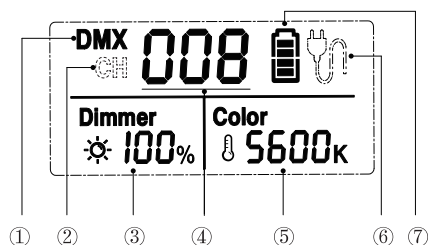

Fig.5 LCD display
The top left corner of LCD screen shows "DMX" (Fig.5 ①) indicating that the communication control mode currently is DMX communication mode. In this mode, connect the DMX signal output device to the lights network, and set up the communication address to work normally.
The top left corner of LCD screen shows "CH" (Fig.5 ②) indicating that the communication control mode is interaction control mode. In this mode, set the target lights to the same communication address to work normally, and the master-slave machine is not distinguished.